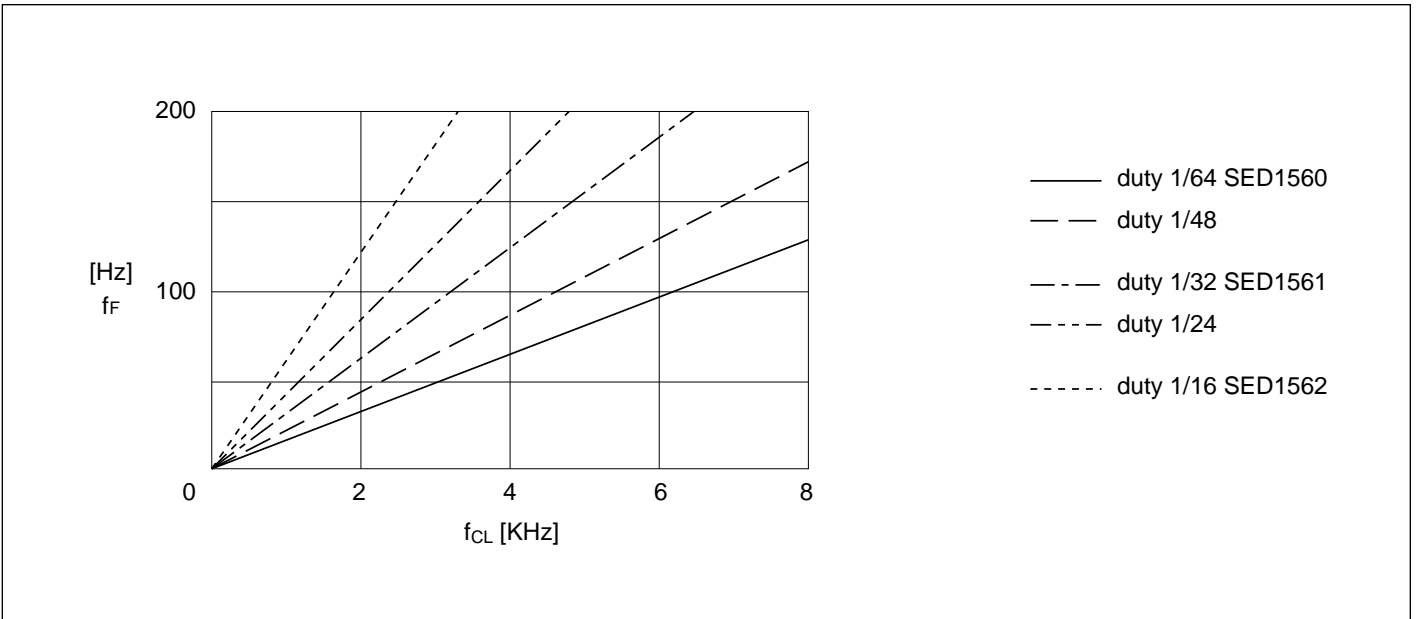
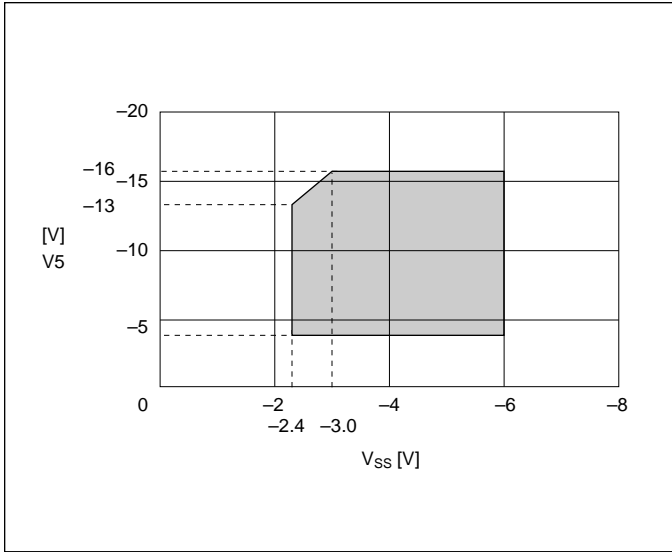

Figure 3.2 External clock (f_{CL}) vs. frame frequency [SED1560 Series]
Figure 3.3
- *2. The operating voltage range of the V_{SS} and V_5 systems (see Figure 3.3). The operating voltage range is applied if an external power supply is used.
- *3. Pins A0, D0 to D7, \overline{RD} (E), \overline{WR} (R/W), $\overline{CS1}$, $\overline{CS2}$, FR, SYNC, M/S, C86, SI, P/S, T1 AND T2.
- *6. Pins A0, \overline{RD} (E), \overline{WR} (R/W), $\overline{CS1}$, $\overline{CS2}$, CL, M/S, \overline{RES} , C86, SI, SCL, P/S, T1, and T2.
- *8. The resistance when the 0.1 -volt voltage is applied between the "On" output terminal and each power terminal (V_1 , V_2 , V_3 or V_4). It must be within the operating voltage (2).
- *9. The relationship between the oscillation frequency, frame and R_f value (see Figure 3.2).